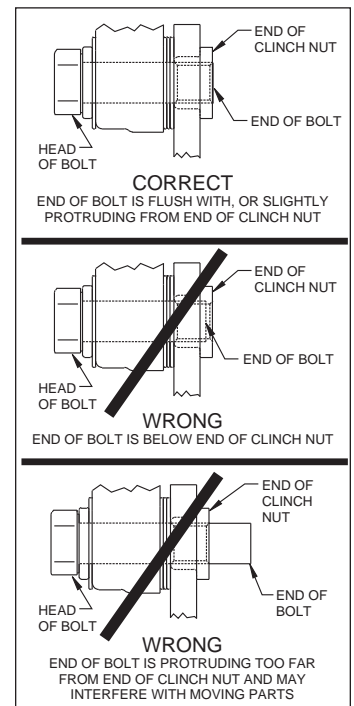

Figure 5. Clinch Nut Engagement Diagram
**Assembly Instructions** (numbers in parenthesis refer to the parts list, and Figure 4): **CAUTION:** All mounting bolts must fully engage clinch nuts. Be sure to check that all bolts are either flush or protruding through flanged side of clinch nut after shimming, Figure 5.
•Pack the large inner bearing cone (6) with high temperature disc brake bearing grease (available from your local auto parts store) and install into the backside of the hub (8), Photo 3.
•Install the grease seal (7) by pressing into the backside of the hub (8), flush with the end of the hub.
•Pack the small outer bearing cone (9) with high temperature disc brake bearing grease and install into the front side of the hub (8). Slide the hub/rotor onto the spindle. Secure using spindle washer (10) and spindle nut (11). Adjust bearings per OEM specifications. Install spindle nut retainer (12) and a new cotter pin (13), Photo 4.
•Press the dust cap (14) into hub (8), Photo 5.
•**NOTE:** Please reference the caution statement at the beginning of the assembly instructions. Mount the caliper (15) onto the caliper mounting bracket (1) using bolts (17) and washers (16), as shown in Figure 4. Initially place three .035" thick shims (18) on each bolt between the caliper and the bracket, Photo 6. Temporarily tighten the mounting bolts and view the rotor (8) through the top opening of the caliper. The rotor should be centered in the caliper, Photo 7. If not, adjust by adding or subtracting shims between the bracket and the caliper. Always use the same amount of shims on each of the two mounting bolts. **NOTE:** The end of each bolt must be flush with or slightly protruding from the head of the clinch nut, as shown in Figure 5. If necessary place spare shims between washer (16) and caliper mounting ear to achieve the proper clinch nut engagement. Once the caliper alignment and clinch nut engagement are correct, remove the bolts one at a time, apply red *Loctite*® 271 to bolt threads, and torque to 40 ft-lb.